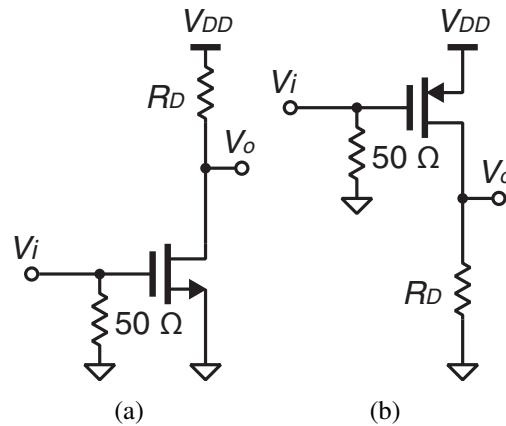

Figure 2: (a) NMOS and (b) PMOS common-source amplifiers with a 50- Ω input impedance.
1. Implement the common-source amplifier on the breadboard. Connect a 50- Ω resistor across the input and the ground as shown in Figure 2. This resistor is important for the voltage reading of the signal generator to be correct. Most of the signal generators have a 50- Ω output impedance and the voltage reading is correct only if its load is 50 Ω . **You will need this 50- Ω termination many times in future labs when you use a signal generator although it won't be explicitly shown in lab manuals.**